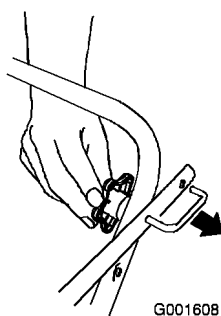

Figure 3
2. Loosen the knobs and pull out the handle bolts (Figure 3).